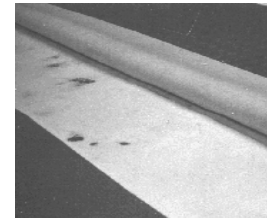

Fig 7
- Fold back the top sheet as illustrated (**Fig. 7**) to expose the dry zone.